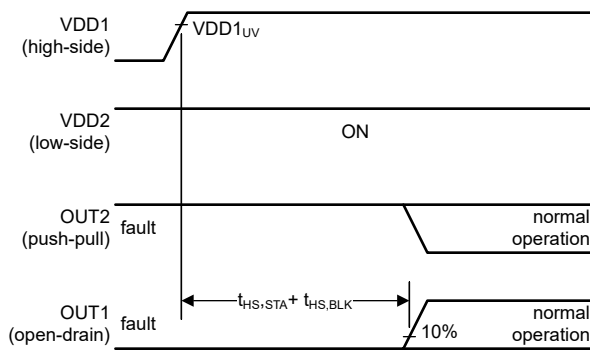

Figure 6-4. VDD2 is On; VDD1 Turns On (Long Delay)
In Figure 6-4, the high-side supply (VDD1) turns on long after the low-side supply (VDD2) turns on. OUT1 is initially in a low state and OUT2 is in a high state, see case (1). After the high-side supply is enabled, there is a duration of $t_{HS,STA} + t_{HS,BLK}$ before the device assumes normal operation and the outputs reflect the current state of the comparator.